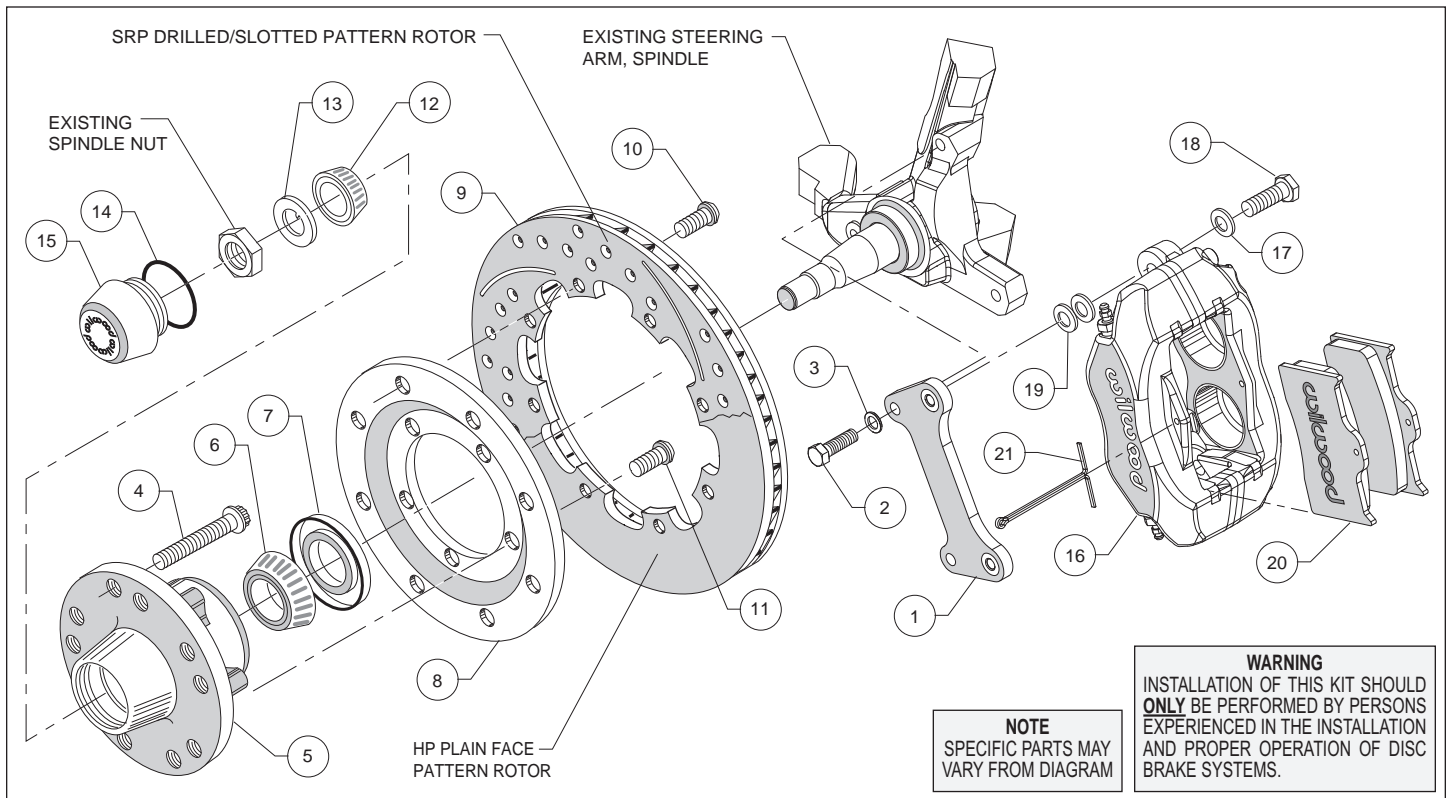
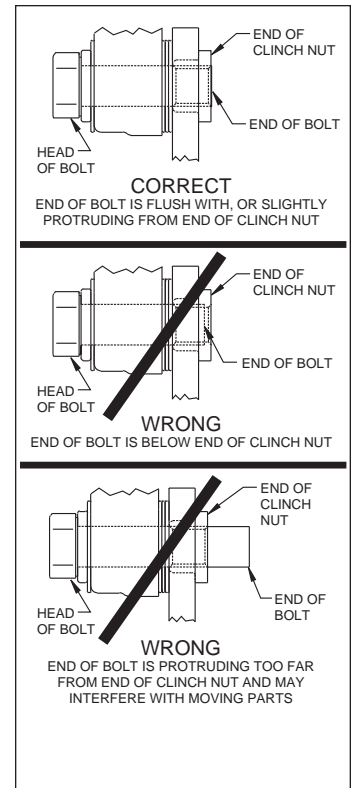

Figure 2. Typical Installation Configuration
Figure 4. Clinch Nut Engagement Diagram
Assembly Instructions (numbers in parenthesis refer to the parts list on the preceding page, and Figure 2 above): **CAUTION:** All mounting bolts must fully engage insert nuts. Be sure to check that all bolts are either flush or protruding through flanged side of clinch nut after shimming, Figure 4.
- Align caliper mounting bracket (1) with the corresponding holes, to the face of the spindle and attach using bolts (2) and washers (3), as shown in Figure 2 and Photo 1. Temporarily tighten the mounting bolts. Ensure that the flanged heads of the clinch nuts in the bracket are facing outboard, Photo 1. **NOTE:** The bracket must fit squarely against the mounting points on the spindle. Inspect for interference from casting irregularities, machining ridges, burrs, etc. Remove bolts one at a time, apply red *Loctite*® 271 to threads, and torque to 40 ft-lb.
- Install wheel studs (4) into the hub (5), Photo 2. Torque to 77 ft-lb. **NOTE:** There are two five lug patterns in the hub (5 x 4.50 and 5 x 4.75). Ensure the correct hub stud pattern is being used to fit the wheel application.
- Pack the large inner bearing cone (6) with high temperature disc brake bearing grease (available from your local auto parts store) and install into the backside of the hub (5), Photo 3.
- Install the grease seal (7) by pressing into the backside of the hub (5), flush with the end of the hub, Photo 3.
- Orient the rotor (9) and the rotor adapter (8) as shown in Figure 2 and Photo 4. Attach the rotor to the adapter using bolts (10). Using an alternating sequence, apply red *Loctite*® 271 to the threads, and torque to 25 ft-lb.
- Mount the adapter/rotor assembly (8/9) to the hub (5) using bolts (11), as shown in Figure 2 and Photo 5. Using an alternating sequence, apply red *Loctite*® 271 to the threads, and torque to 45 ft-lb.
- Pack the small outer bearing cone (12) with high temperature disc brake bearing grease and install into hub (5). Slide the hub/rotor assembly onto the spindle. Secure using spindle washer (13) and OEM spindle nut, Photo 6. Adjust bearings per OEM specifications. Install saved OEM nut lock (if any) and a new cotter pin (not included).
- Screw dust cap (15) into hub (5), Photo 7. Friction created by the o-ring (14) on the dust cap keeps it from unscrewing. **NOTE:** The O.D. of the existing OEM spindle washer may be larger than the I.D. of the dust cap not allowing it to seat against the hub face. Therefore, use the spindle washer (13) supplied with the kit instead of the OEM washer.
•**NOTE:** Please reference the caution statement at the beginning of the assembly instructions. Mount the caliper (16) onto the caliper mounting bracket (1) using bolts (18) and washers (17), as shown in Figure 2. Initially place two .035" thick shims (19) on each bolt between the caliper and the bracket, Photo 8. Temporarily tighten the mounting bolts and view the rotor (9) through the top opening of the caliper. The rotor should be centered in the caliper, Photo 9. If not, adjust by adding or subtracting shims between the bracket and the caliper. Always use the same amount of shims on each of the two mounting bolts. **NOTE:** The end of each bolt must be flush with or slightly protruding from the head of the clinch nut, as shown in Figure 4. If necessary place spare shims between washer (17) and caliper mounting ear to achieve the proper clinch nut engagement. Once the caliper alignment and clinch nut engagement are correct, remove the bolts one at a time, apply red *Loctite*® 271 to bolt threads, and torque to 40 ft-lb.